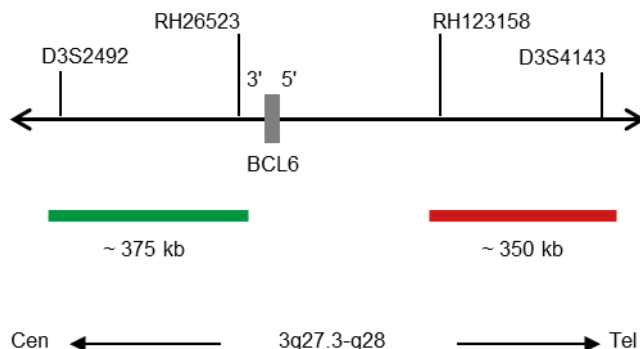

Fig. 1: SPEC BCL6 Probe map (not to scale)
- Digoxigenin-labeled polynucleotides (~0.50 ng/μl), which target sequences mapping in 3q27.3* (chr3:187,028,236-187,403,834) proximal to the BCL6 breakpoint region (see Fig. 1).
- Dinitrophenyl-labeled polynucleotides (~0.75 ng/μl), which target sequences mapping in 3q27.3-q28* (chr3:187,744,962-188,097,195) distal to the BCL6 breakpoint region (see Fig. 1).